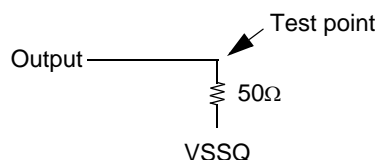

Figure 1 : Pullup slew rate test load
- a. Pullup slew rate is characterized under the test conditions as shown in Figure 1.